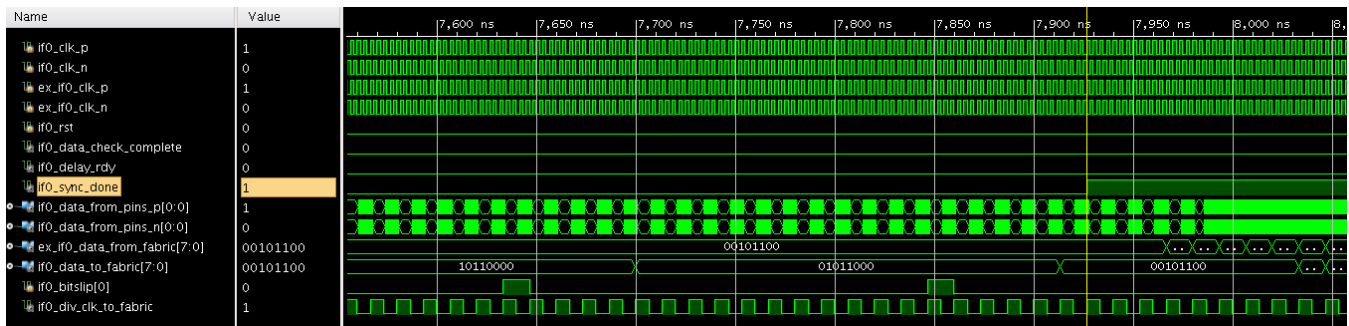

Figure 6-1: Test Bench Waveform
- If an RX and TX pattern matches, the test bench sends a message for the successful test completion, as shown in Figure 6-1. Otherwise, it waits for 16000 cycles of input clock and sends a test failure message.